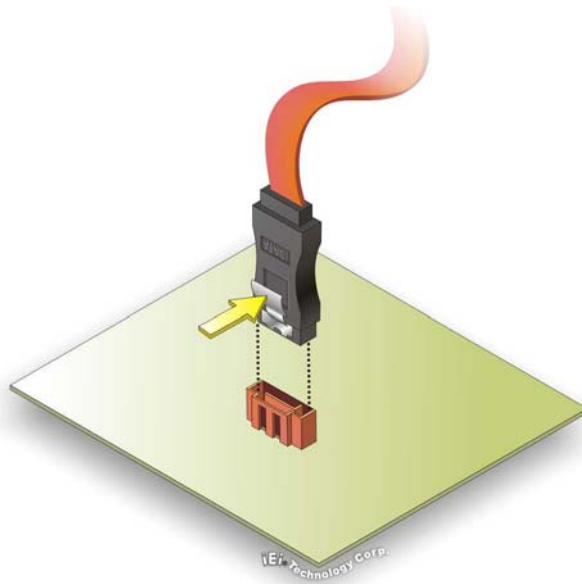

Figure 4-10: SATA Drive Cable Connection
Step 2: Insert the cable connector. Press the clip on the connector at the end of the SATA cable and insert the cable connector into the on-board SATA drive connector. See Figure 4-10.